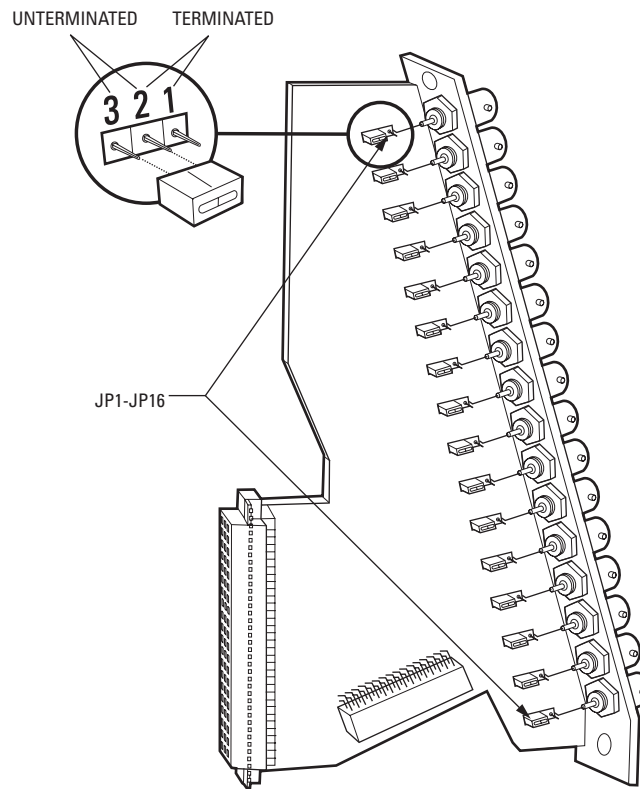

Figure 26. Termination Jumpers on CM9760-RPM Card
1. Ensure that termination jumpers JP1-JP16 are set in the unterminated position (positions 2 and 3) (refer to Figure 26).